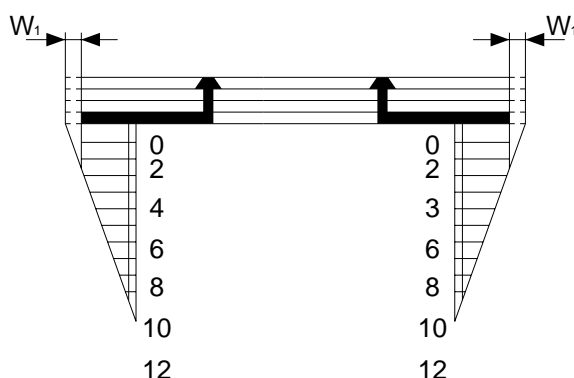

Figure 10-219
- 5) Check the image, and measure the non-image width shown in Figure 10-219.